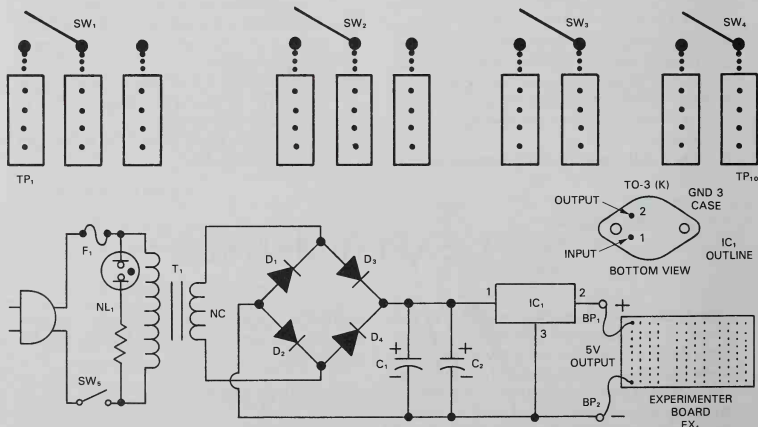

Fig. 18-4. Schematic and parts list for the Experimenter.
1. Obtain parts and wire the 5 volt dc power supply. See Fig. 18-4 for the schematic.